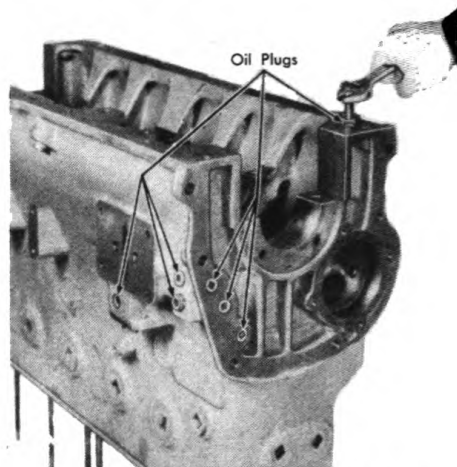

Figure 139. Removing Oil Line Pipe Plugs.
37. Remove the oil line pipe plug at the front end of the case and the three at the rear end. See Figure 139.